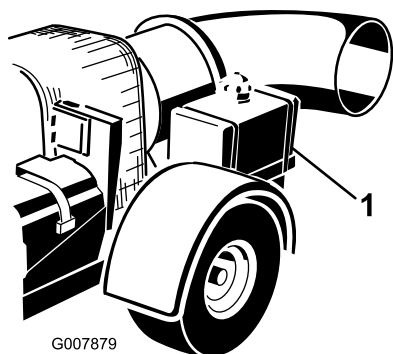

Figure 15
2. Clean the area around the fuel tank cap and remove the cap (Figure 15).